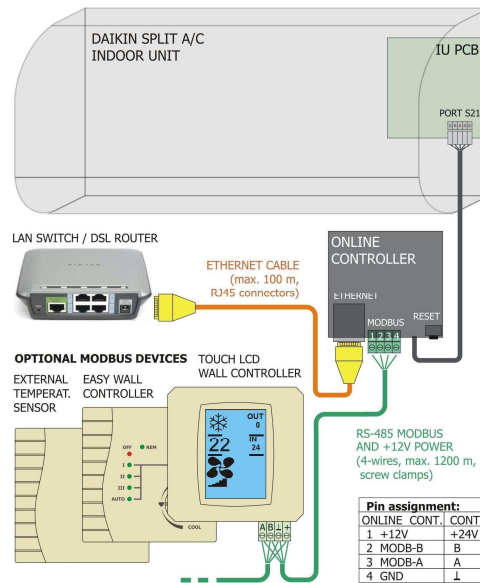

Figure 3
- Modbus communication protocol (See Figure 3 – pin-out assignment)
4. Connect Online Controller and EWC via the cable. Look at Figure 3 for pin-out assignment.